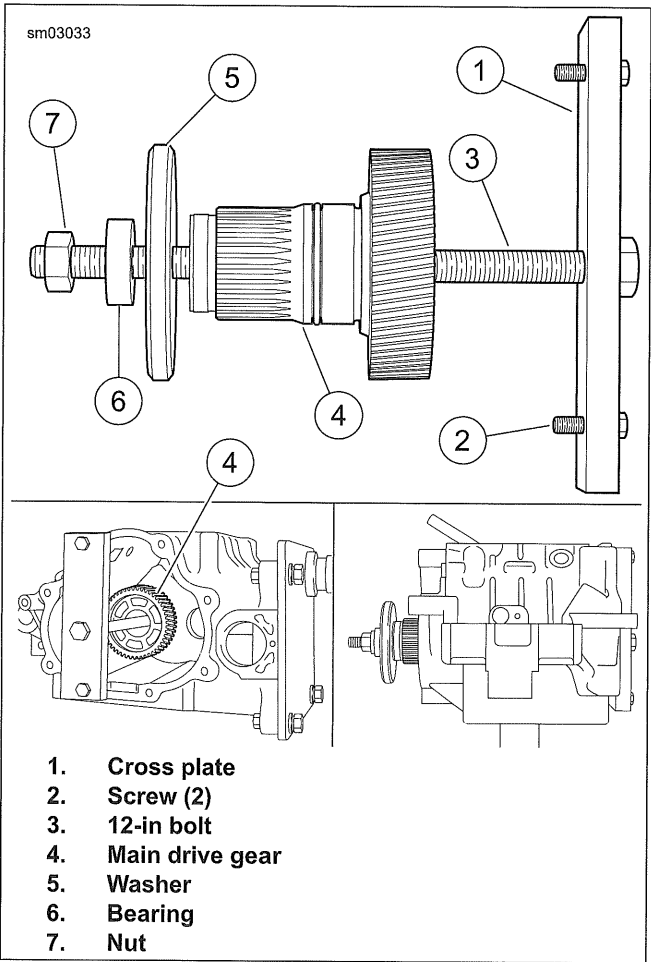

Figure 5-62. Removing Main Drive Gear
- 1. See Figure 5-62. Remove gear using MAIN DRIVE GEAR REMOVER AND INSTALLER SET (PART NUMBER: HD-35316-D).